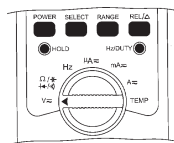

Fig. 2
2.5b) " =V " position (For LINE Frequency measurement) [Fig.2]